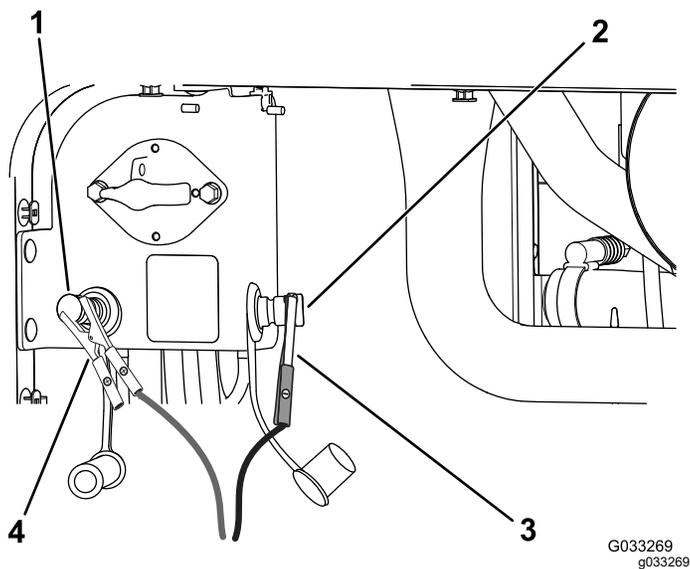

Figure 110
4. Connect the positive lead of the battery charger to the positive jump post (Figure 110).
- Connect the negative lead of the battery charger to the negative jump post (Figure 110).
- When the batteries are fully charged, unplug the charger from the electrical source, then disconnect the charger leads from the jump posts (Figure 110).